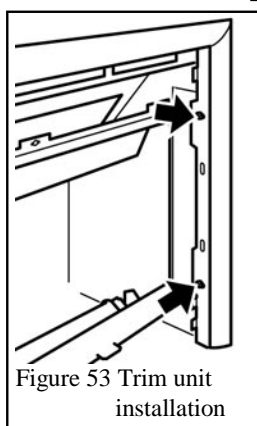

Figure 53 Trim unit installation
- Attach the complete trim unit to the firebox with four screws as shown in figure 53.